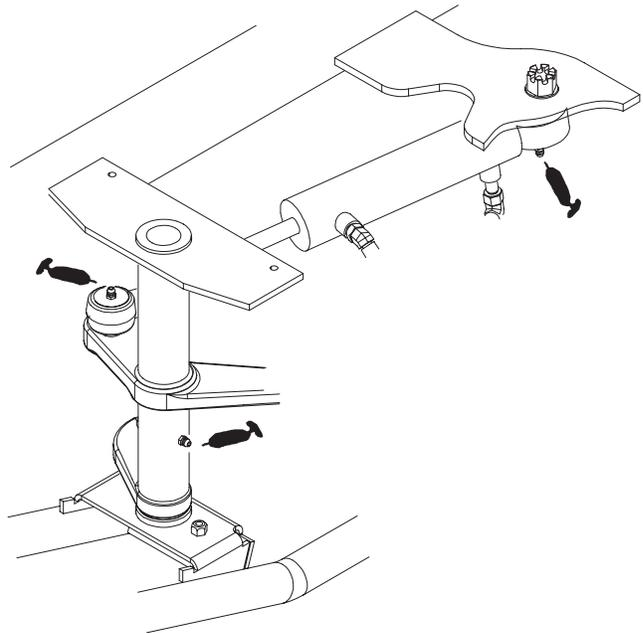

Figure 33
The grease fitting locations and quantities are: Steering pitman arm (1) and Steering ball joint ends (2) (Fig. 33), Tie rod ends (4) (Fig. 34), Front ball joints (4) (Fig. 34), Rear drive shafts (18) (Fig. 35), Pedal pivots (3) (Fig. 36); Front pivot bushings (2) (Fig. 37) and Accelerator arm (1) (Fig. 38).